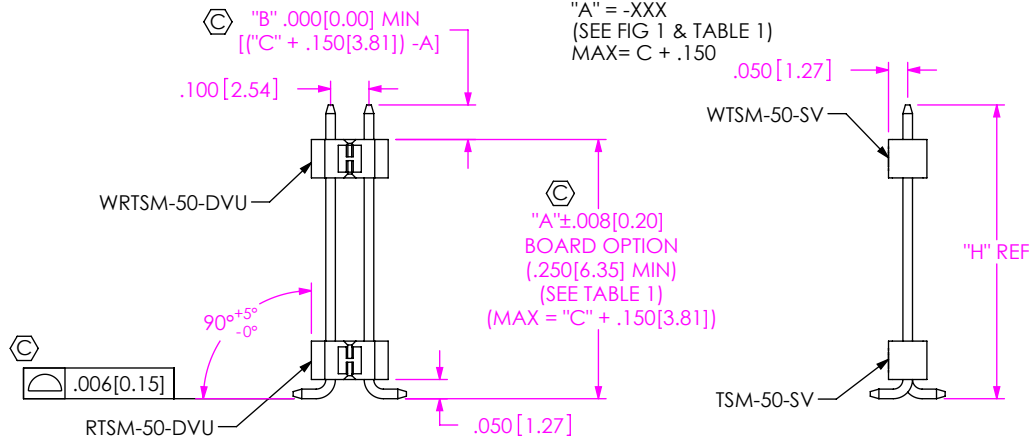

FIG 1
- LEAVE BLANK FOR NO HOLD DOWN OPTION (-D: USE RTSM-50-DVU, CAN BE CUT TO POSITION, SEE FIG 1) (-S: USE TSM-50-SV, CAN BE CUT TO POSITION, SEE FIG 1)
"A" = -XXX (SEE FIG 1 & TABLE 1) MAX= C + .150
(SAME AS FIG 1, DIFFERENT AS SHOWN)